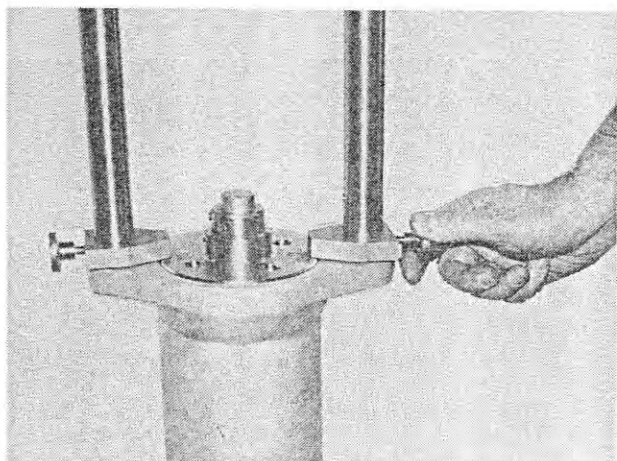

Fig. 222
22. Loosen the knurled screws of the clamping pieces (Figure 222).